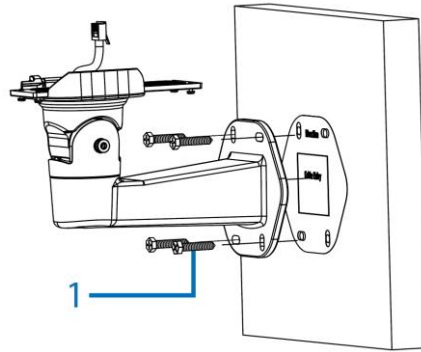

Figure 2
5. Securely attach the mounting arm to the surface with the four TP6x32mm screws (1) (Figure 2).